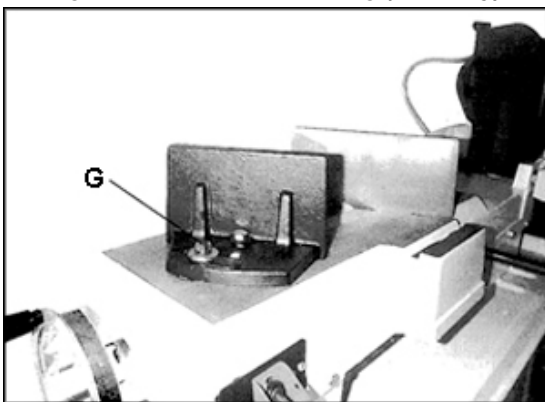

Figure 8-18: Vise Positioning (712 only)
- 4) Adjust floating vise parallel to fixed vise by loosening bolt (G, Figure 8-18), adjusting to parallel, and tightening bolt.